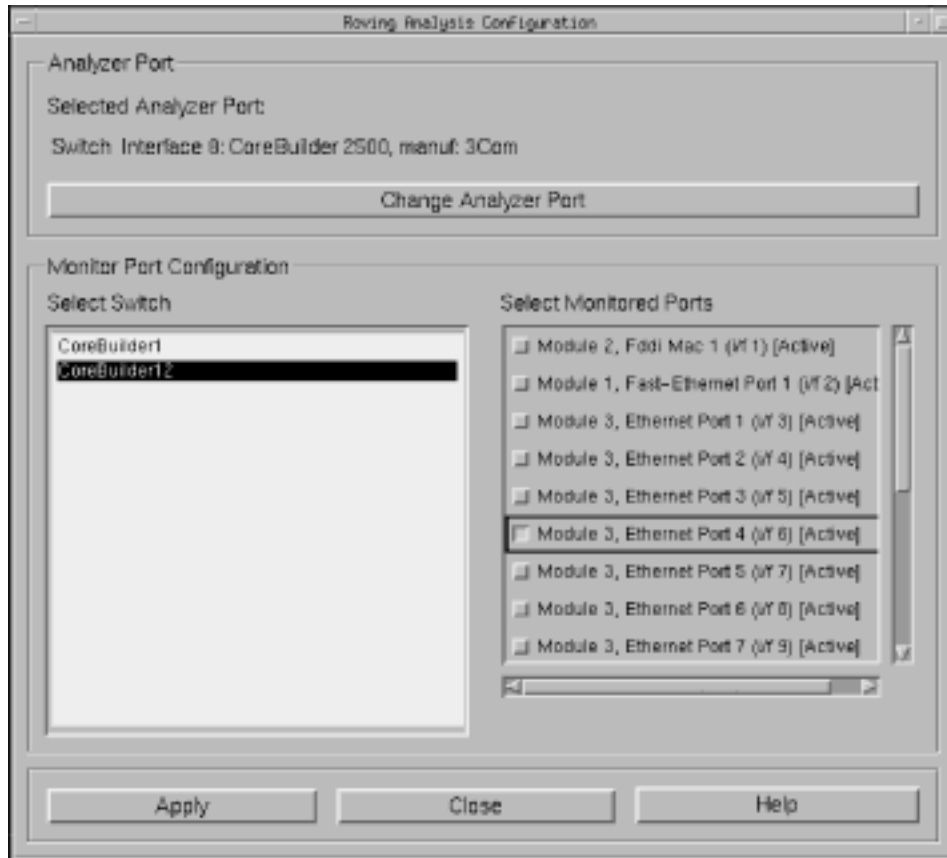

Figure 69. Roving Analysis Configuration Dialog Box
1. With an Analyzer port selected in the Change Analyzer Port dialog box, click **OK** to launch the Roving Analysis Configuration dialog box (Figure 69 on page 163). From this dialog box you can set up the ports that are to be monitored.